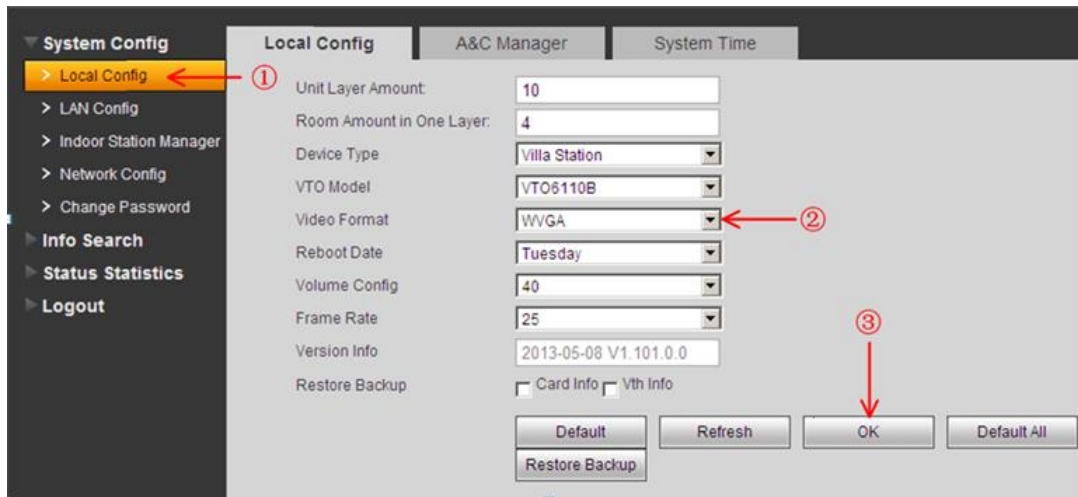

Figure 2-2
Step 1 Check system Config>Local Config> set Video Format as WVGA, see Figure 2-2